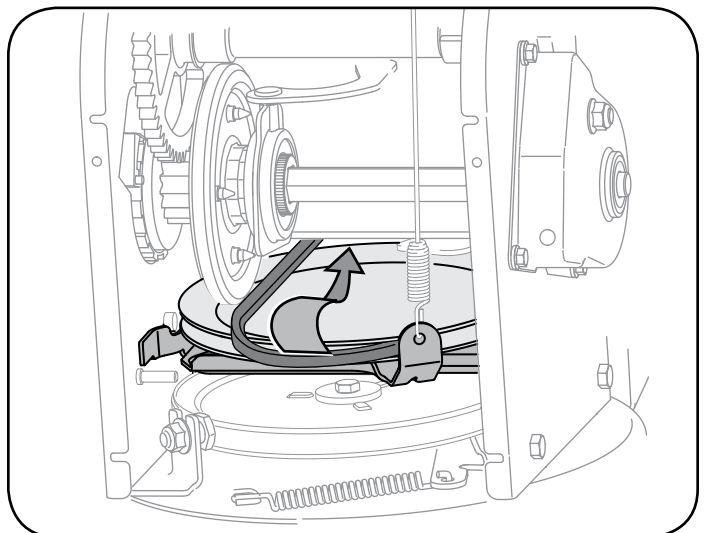

Figure 19
1. Remove the self-tapping screws from the frame cover underneath the snow thrower. Refer to Figure 19.
- Slip the drive belt off the pulley and between friction wheel and friction wheel disc. See Figure 19.